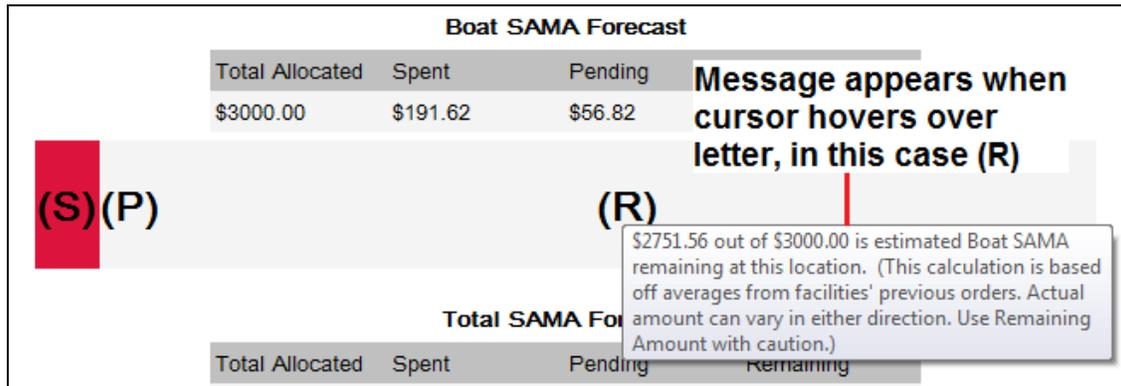

Figure 2-32 Budget Progress Bar Message
NOTE: (S) stands for *Spent*, (P) stands for *Pending*, and (R) stands for *Remaining*. Pointing the mouse cursor to each letter in the budget progress bar reveals a short message with budget details, similar to Figure 2-32.